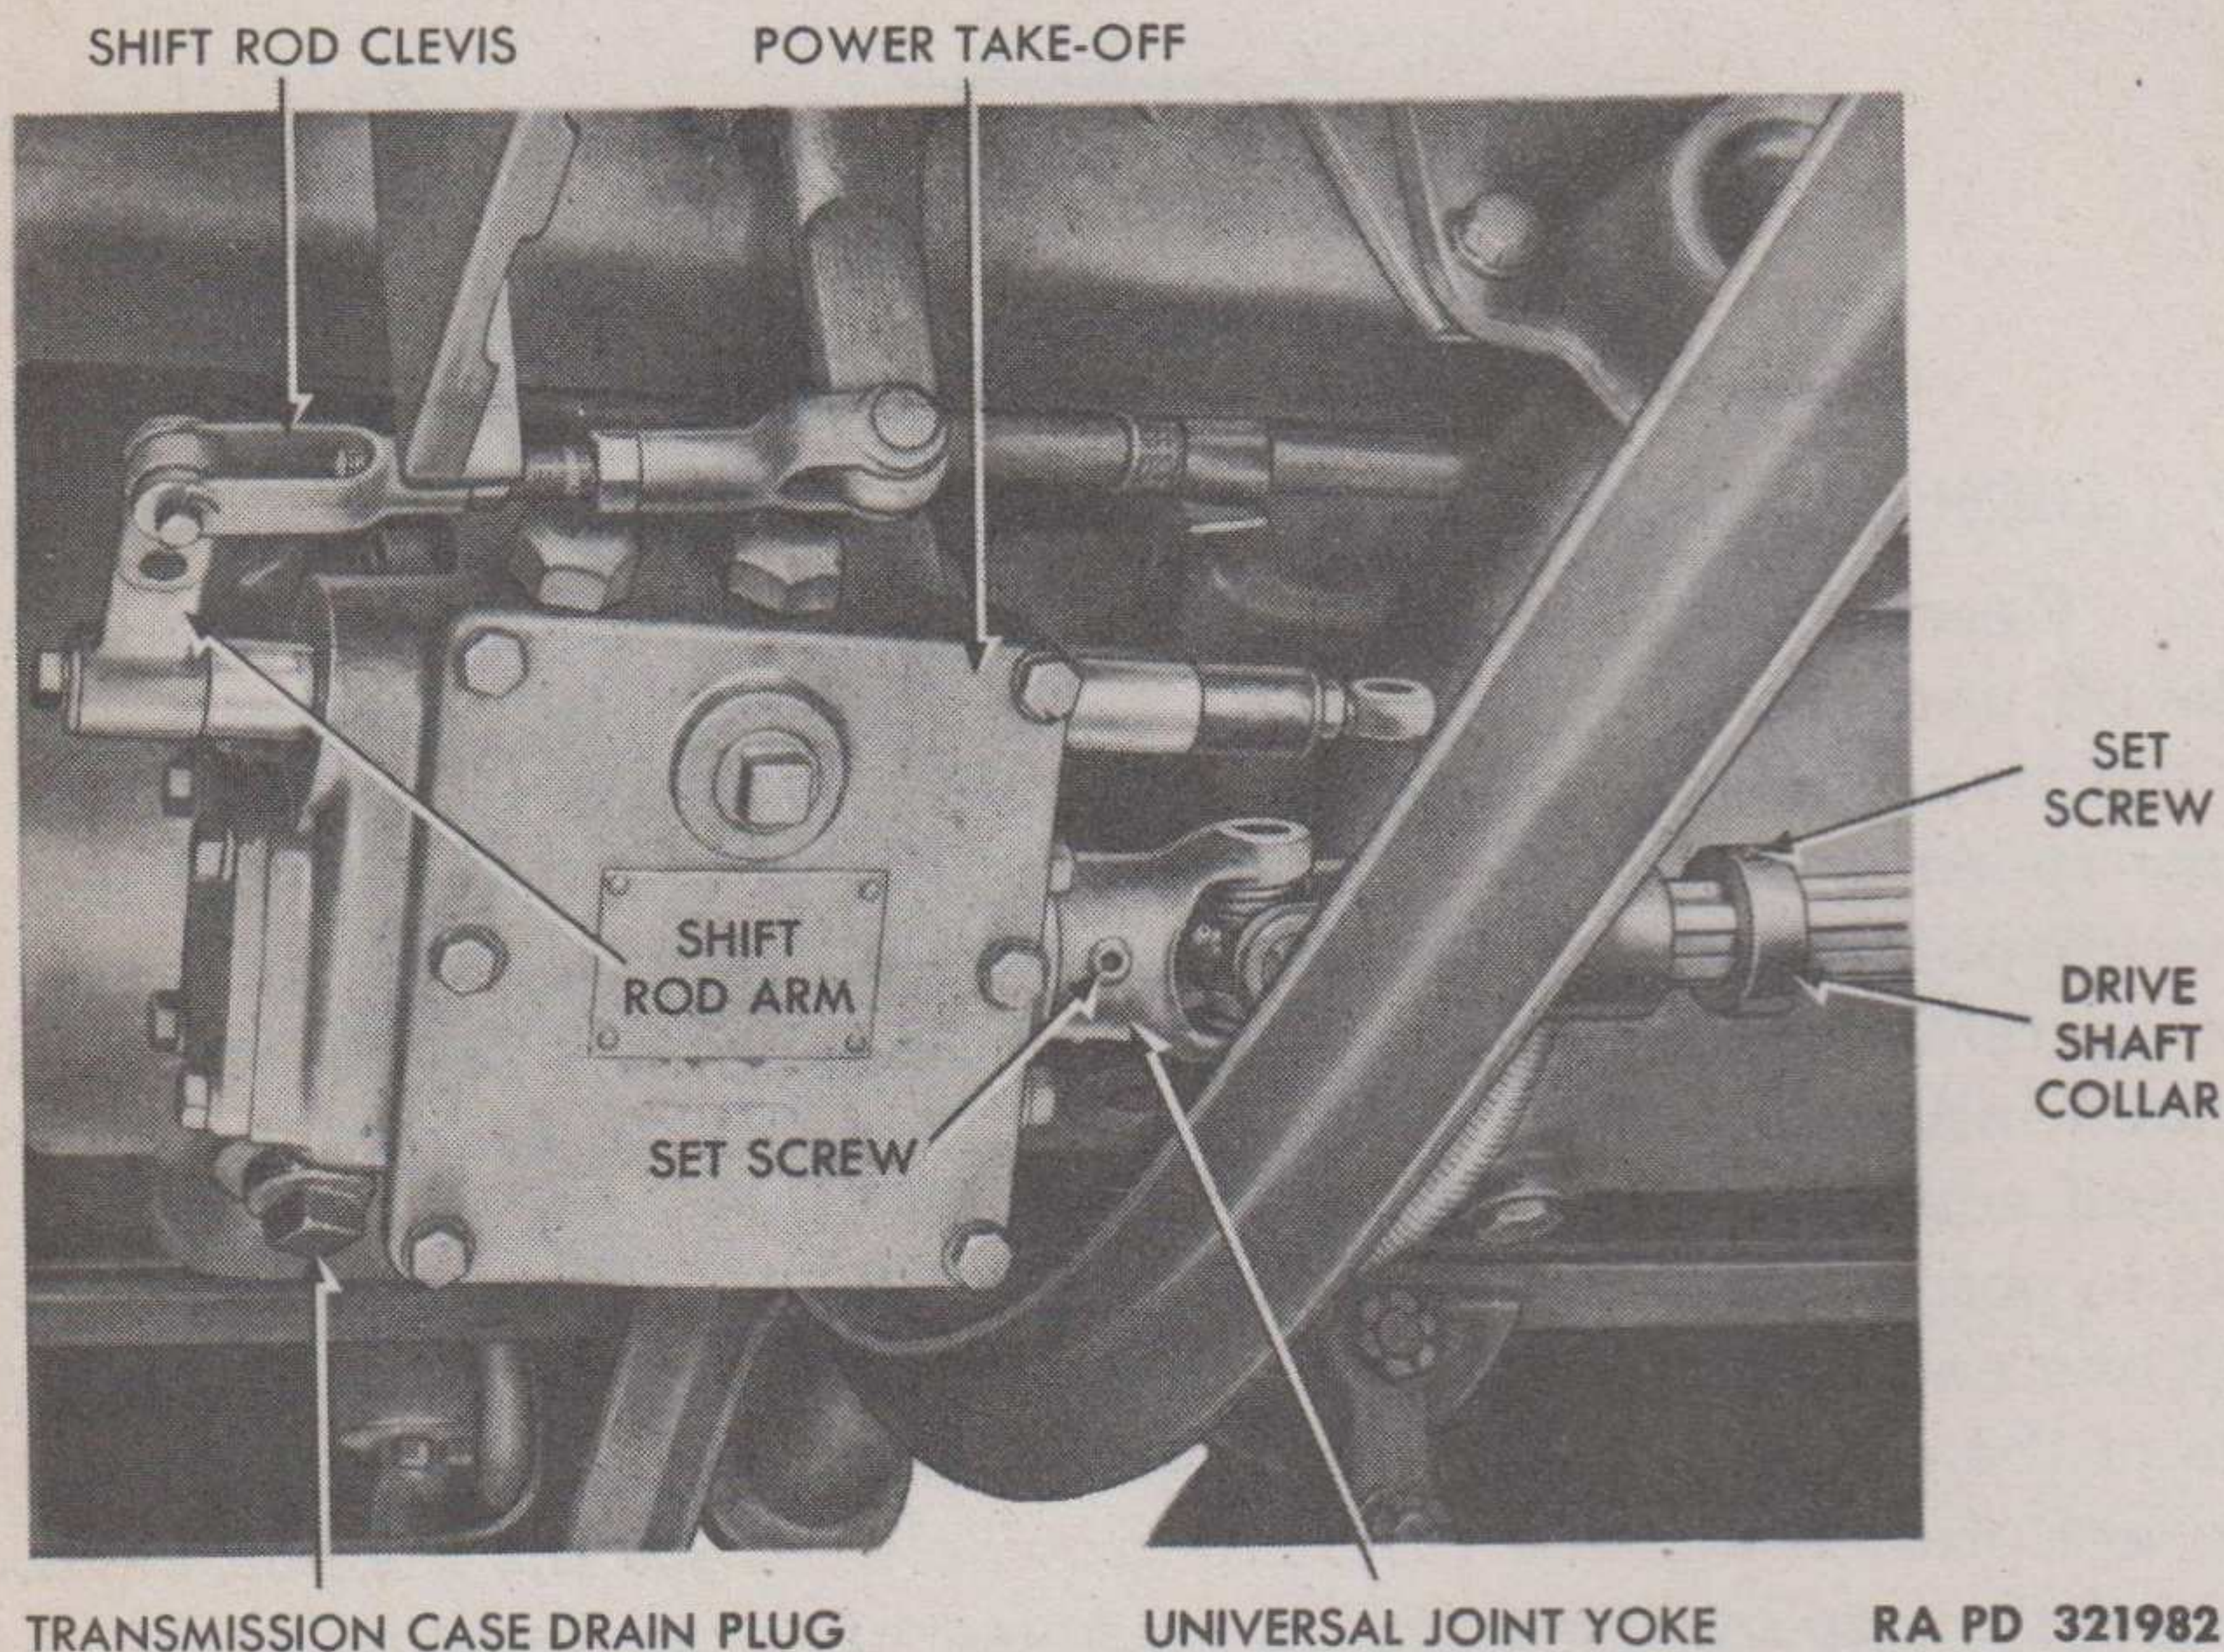

Figure 18 — Power Take-off Installed
a. **Description** (fig. 18). For operation of the winch, a power take-off unit is mounted on a special adapter on the right-hand side of the transmission. Selection of two forward speeds and one reverse speed is made through operation of a shifter lever in the cab. The adapter bracket assembly and take-off assembly are separated during removal from transmission, as one attaching cap screw is located inside the adapter bracket. In the adapter bracket, a power take-off adapter gear is mounted on a roller bearing and a gear shaft, held in position by a steel pin. This pin is driven through the bracket and one end of the gear shaft. Thrust washers are placed on each side of the adapter gear. In the power take-off assembly, roller bearings are pressed into the case and provide seats for the take-off shaft. This shaft is splined to permit movement of take-off sliding gear. A shift yoke attached to a shift rod fits a slot on the sliding gear. This yoke is held in position on the shift rod by a shift rod tube which slides over one end of the shift rod, forcing the yoke against a shoulder on the rod. Grooves in the shift yoke and shift rod tube permit entry of gearshift pawls. These pawls are forced against the yoke and shift rod tube by pawl springs, which fit into poppets threaded into top of take-off case. An idler gear, in which two roller bearings, separated by a bearing spacer, are used, is mounted in the take-off case under the take-off sliding gear. Thrust washers are used on each end of the idler gear assembly. Cap screws, threaded into each end of the idler gear pin, hold the assembly in position. An intermediate gear which is in constant mesh with the idler gear rides on a roller bearing and a bearing sleeve. A set screw holds the intermediate gear pin in the take-off case.
a. **Drain Transmission and Power Take-off (fig. 18).** Drain transmission by removing drain plug from bottom of transmission case. Remove bottom cover plate from take-off case to complete draining of power take-off unit.
b. **Detach Shift Rod** (fig. 18). Remove cotter pin and clevis pin attaching take-off shift rod clevis to shift rod arm.
c. **Detach Winch Drive Shaft** (fig. 18). Loosen set screws on universal joint yoke and drive shaft collar. Slide collar forward and tap universal joint off power take-off shaft.
c. **Attach Winch Drive Shaft** (fig. 18). Position universal joint yoke on take-off shaft, and tighten yoke set screw. Slide drive shaft collar back to a distance of three-fourths inch from rear universal joint hub, and tighten collar set screw.
d. **Attach Shift Rod** (fig. 18). Attach shift rod to shift rod arm with clevis pin and cotter pin.